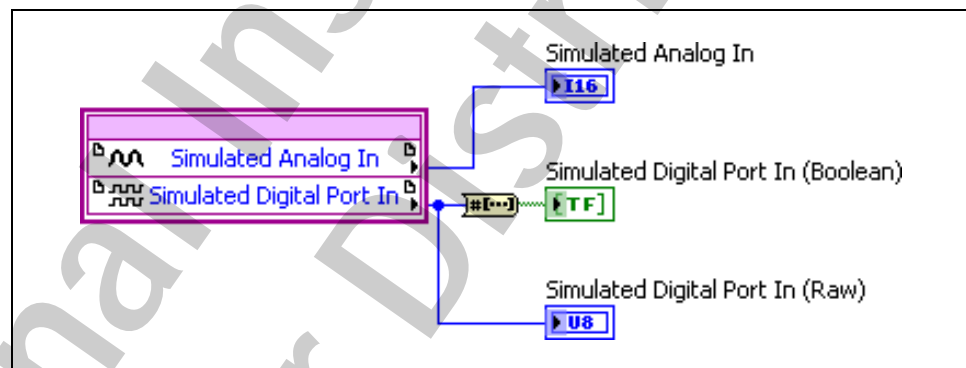

Figure 4-2. R-Series IO.vi Block Diagram
7. In the R-Series IO VI, build the block diagram shown in Figure 4-2.